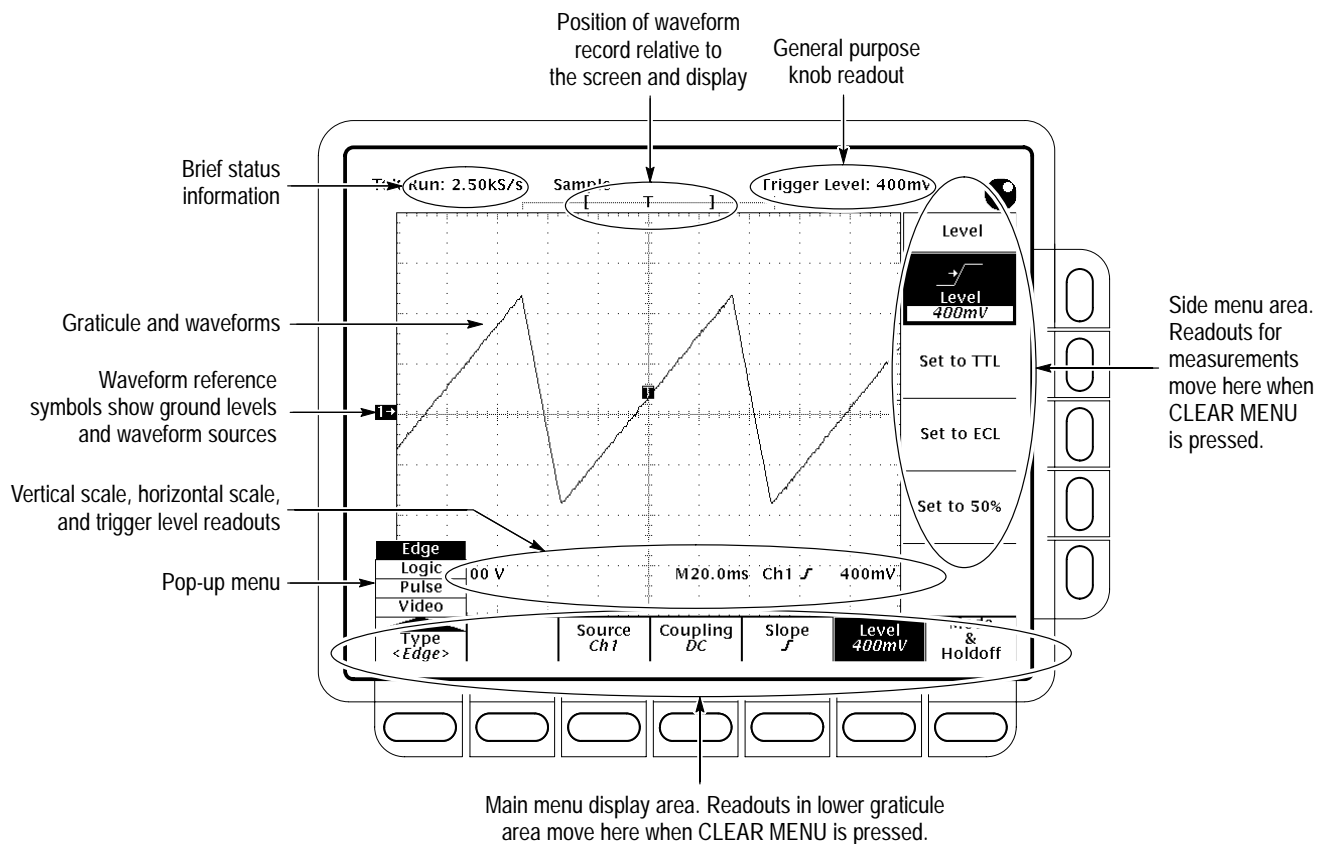

Figure 1–1: Map of Display Functions
- Refer to Figure 1–1: “Main menu” refers to the menu that labels the seven menu buttons under the display; “side menu” refers to the menu that labels the five buttons to the right of the display. “Pop-up menu” refers to a menu that pops up when a main-menu button is pressed.